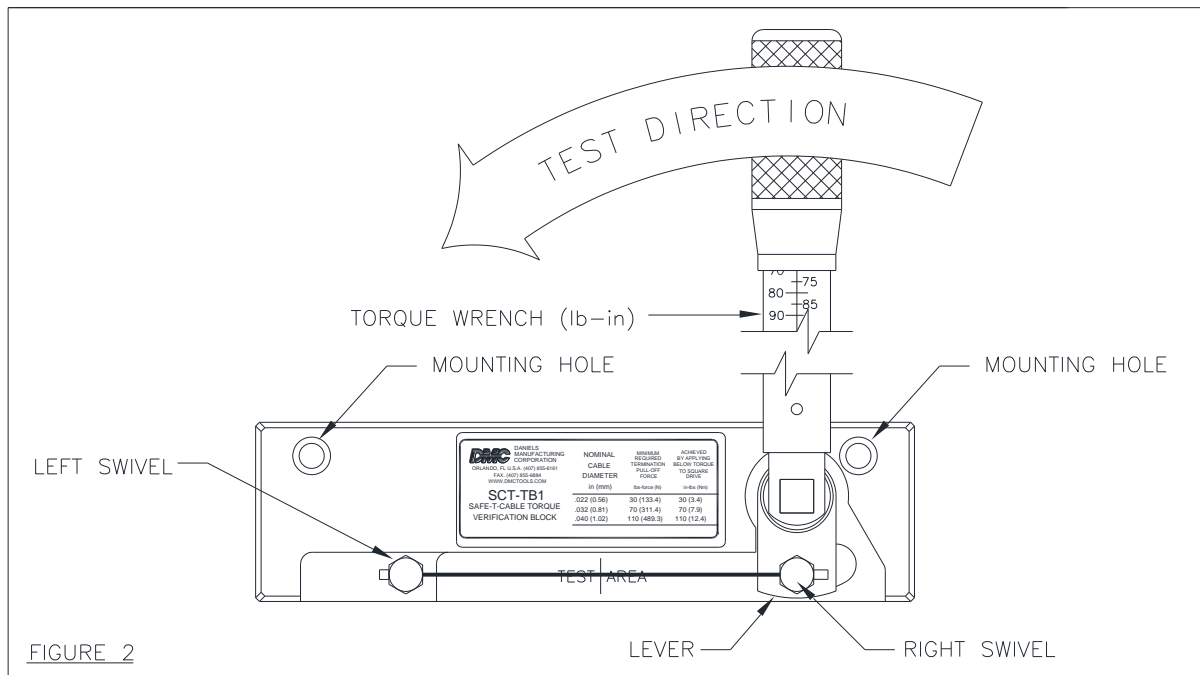

FIGURE 2
- 1.1.4** Place a calibrated 3/8" drive torque wrench (SCTD0001) into the square drive hole, orienting the torque verification block and torque wrench on a flat surface as shown in FIGURE 2. Apply the proper pull off load as shown in TABLE 2.